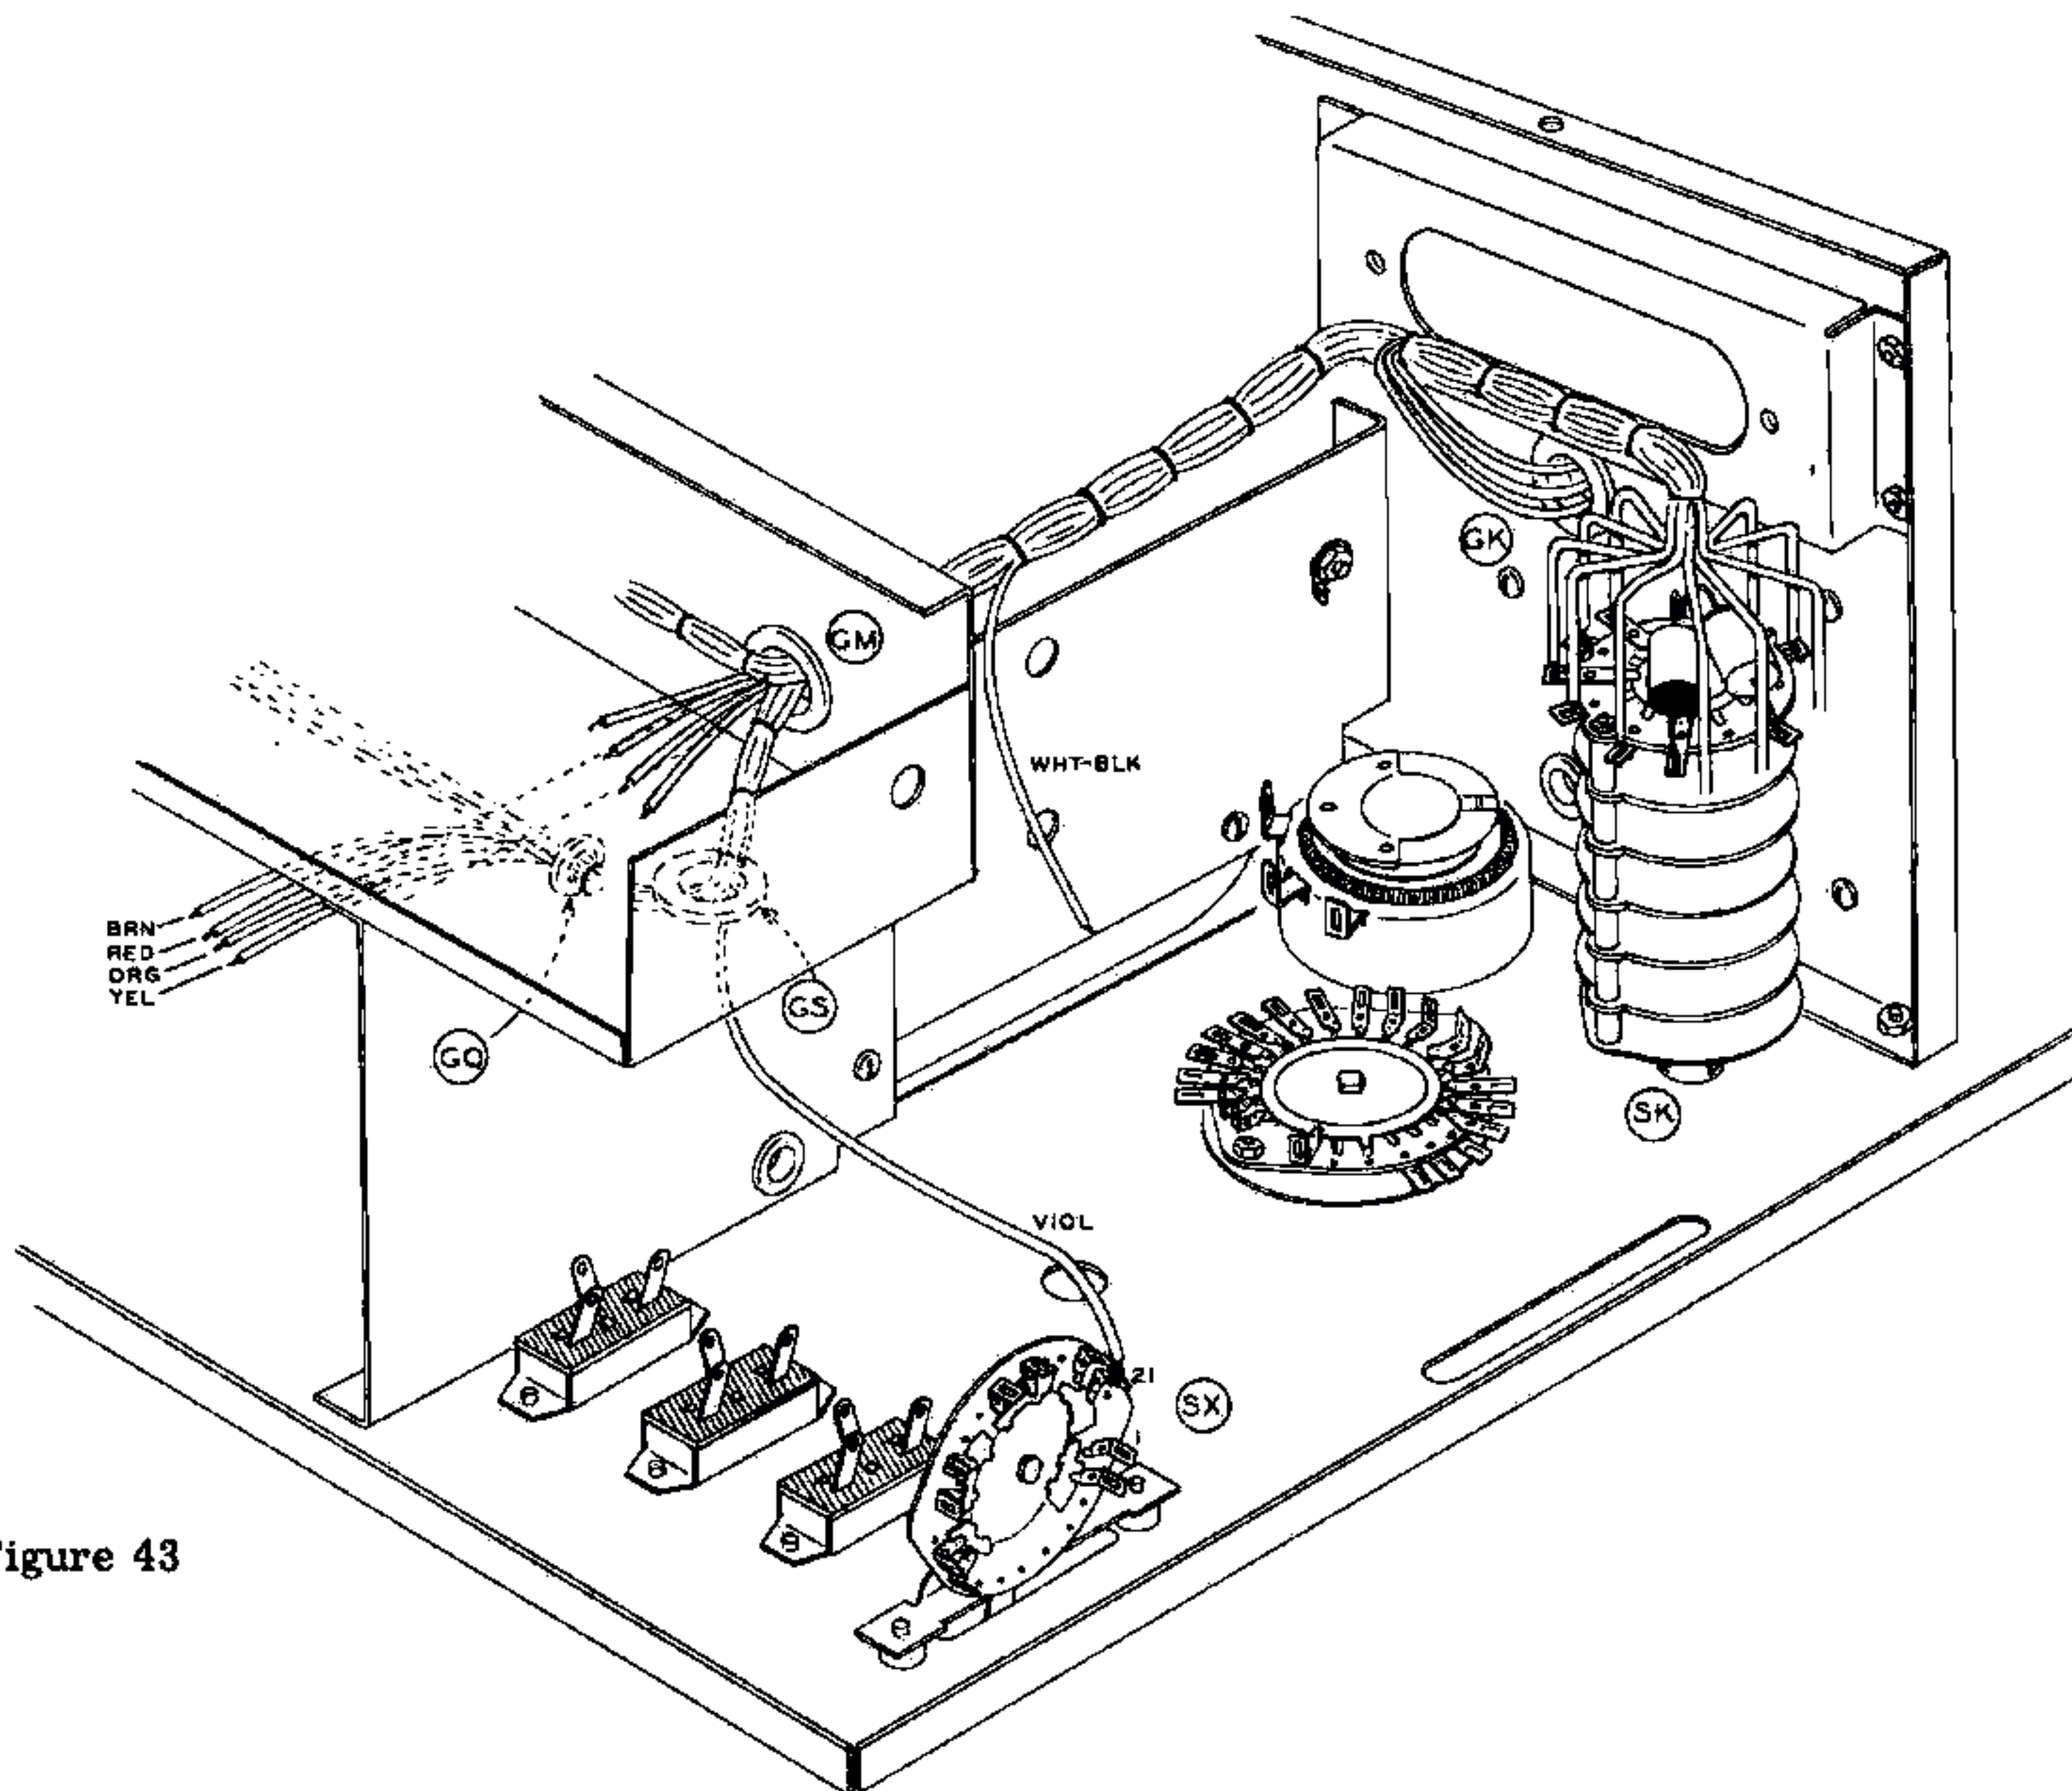

Figure 43
- ( ) When the switch has been securely mounted, bend the cable harness above the switch at right angles so that it will assume the position shown in Figure 43. The white-black lead which breaks out of the harness above hole SN will be connected later to the LEAK-AGE switch.